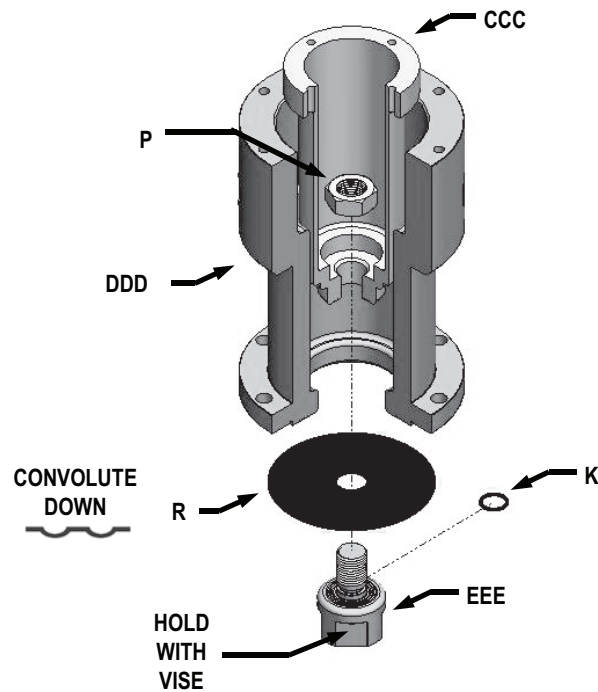

Figure 32
A. For a VRP-600-SB-PID (Figure 32), slide a -012 O-Ring (K) onto the Bottom Piston (EEE). Orient the Diaphragm (R) as shown in Figure 32. Insert the Inner Tube (CCC) into the Spring Chamber (DDD). Clamp the assembly together by threading a 1/2-20 SS Jam Nut (P) onto the Bottom Piston (EEE) while holding it in a vise. Torque to 140-160 in.-lbs. Move to Step 52.